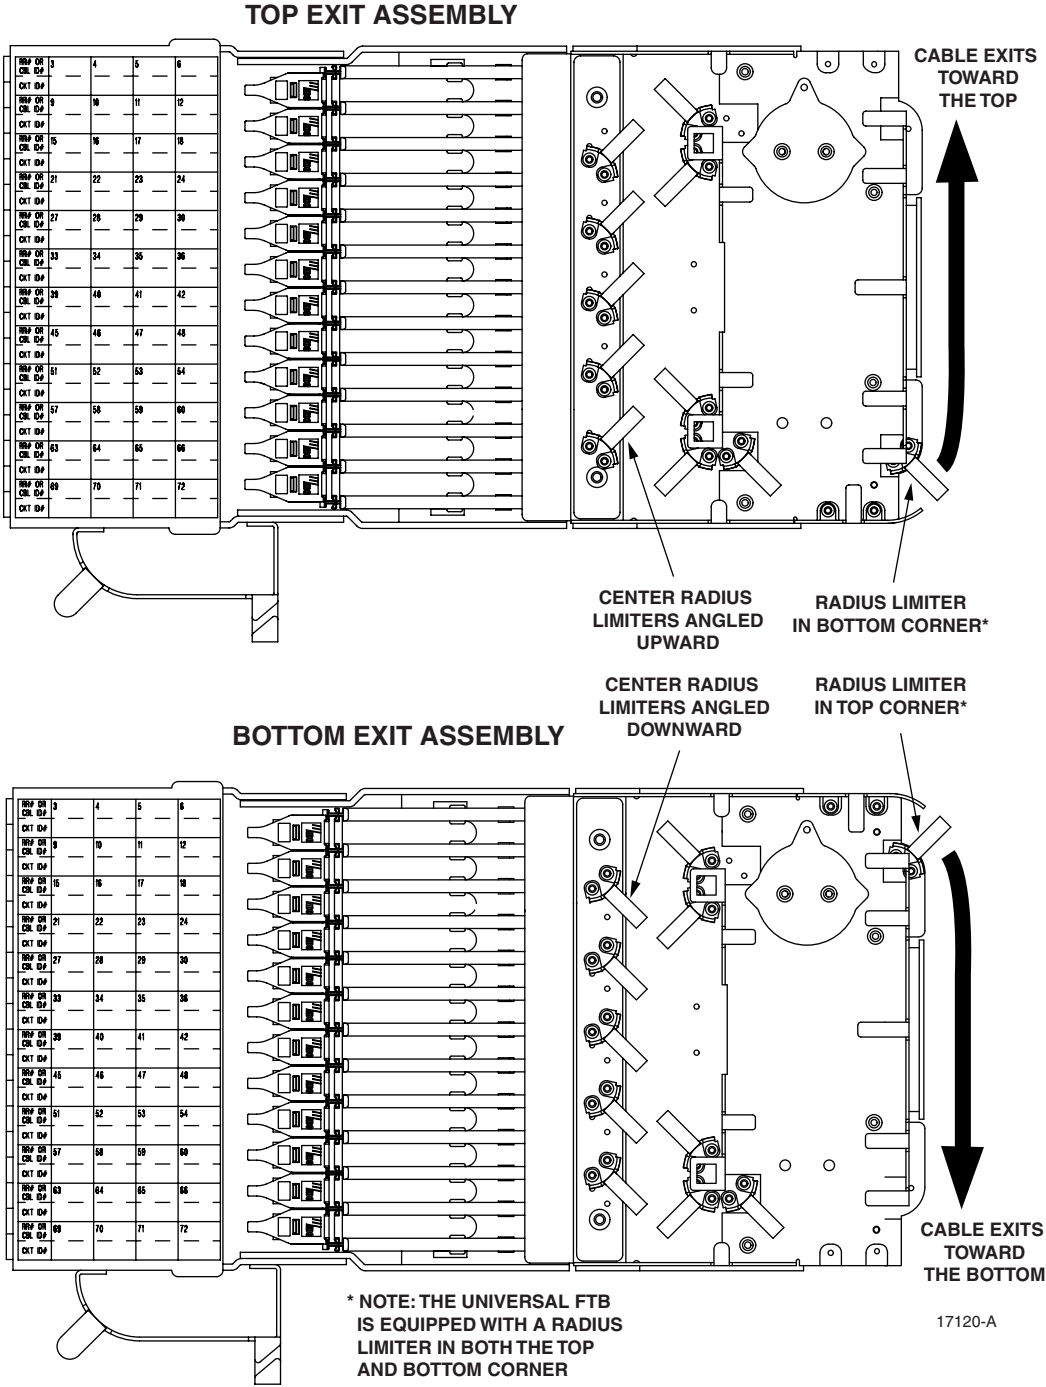

Figure 12. Cable Exit Orientation
3. Verify that the FTB has the correct cable exit orientation (top or bottom) for the cable installation, as shown in Figure 12.